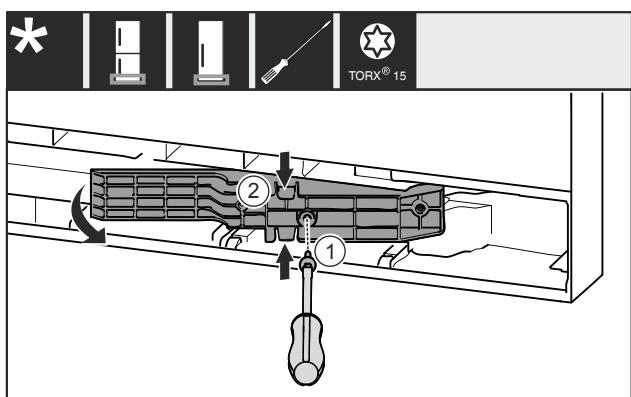

Fig. 20 *
- ▶ Remove the screw Fig. 20 (1).*
- ▶ Gently press the top and bottom of the adapter piece Fig. 20 (2) together and pull it out.*